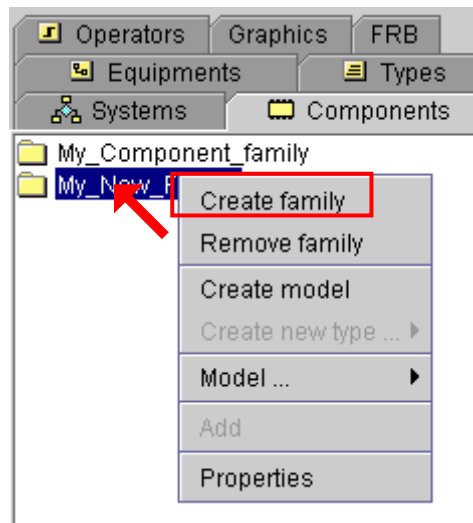

Figure 53: Creation of a sub-family
- ◆ Select the command **Create family** (Figure 53)